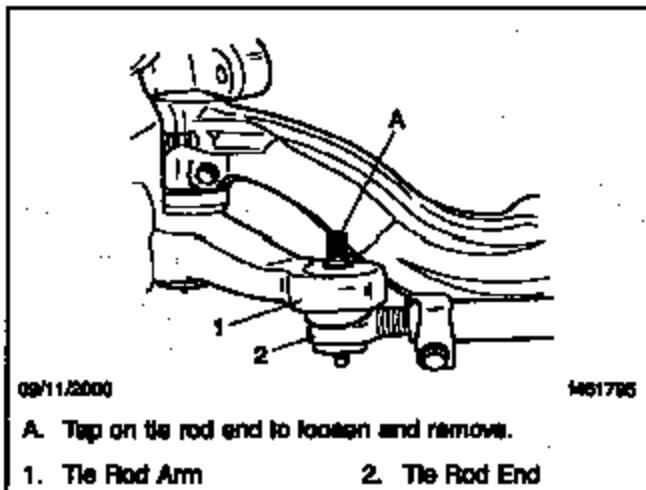

Fig. 3, Tie Rod End and Tie Rod Arm
- If necessary, tap on the tie rod end to loosen the tie rod end from the tie rod arm. See Fig. 3.